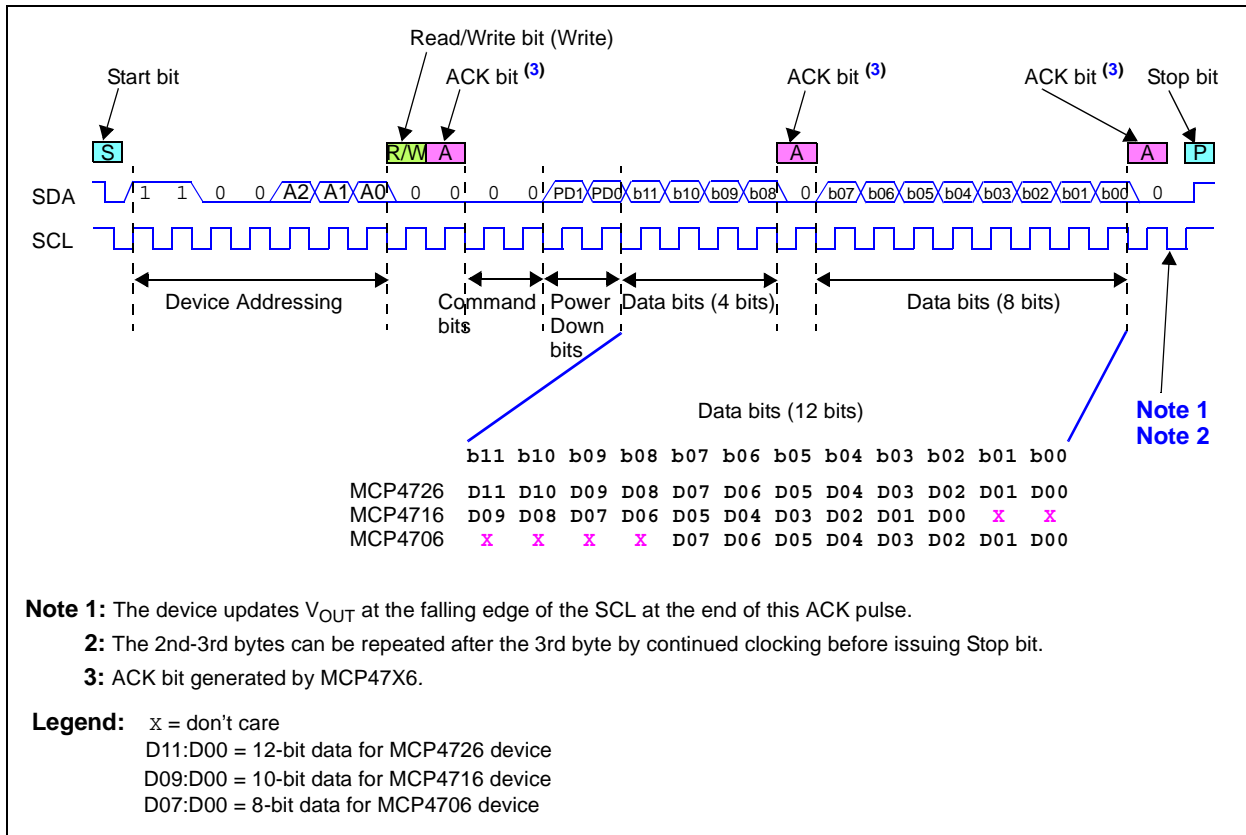
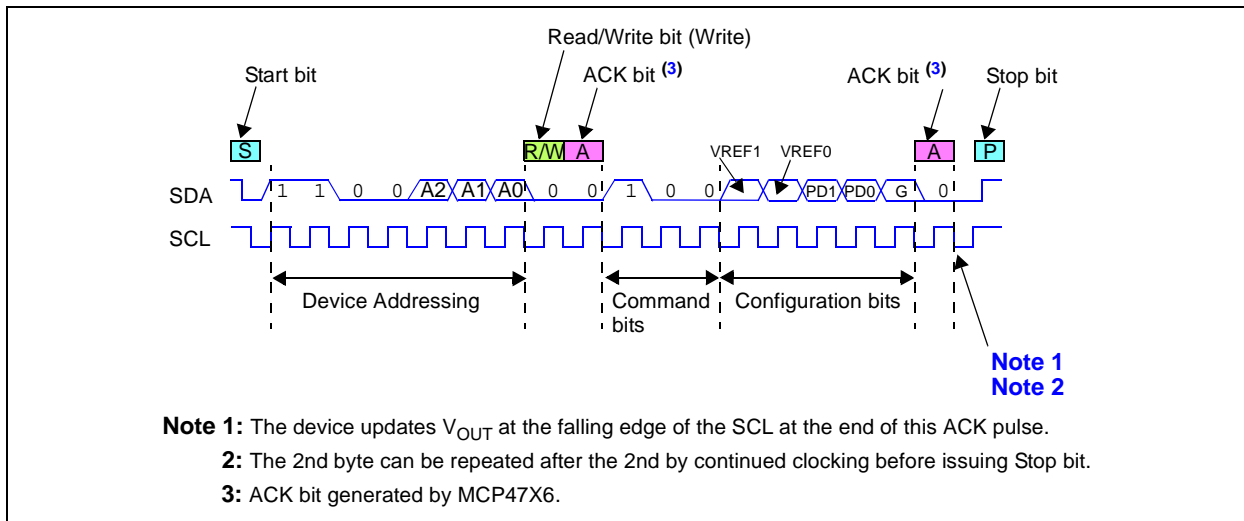

FIGURE 6-1: Write Volatile DAC Register Command.
FIGURE 6-4: Write Volatile Configuration Bits Command.
- Note 1:** These bits are the MSb of the 2nd byte in the I2C Write command. See Figure 6-1 to Figure 6-4.
Figure 6-1 shows an example of the command format, where a Stop bit completes the command.
This Write command is used to update the volatile Configuration register bits only. This command is a quick method to modify the configuration of the DAC, such as the selection of the resistor ladder reference voltage, the op amp gain, and the power-down state. Figure 6-4 shows an example of this Write command.